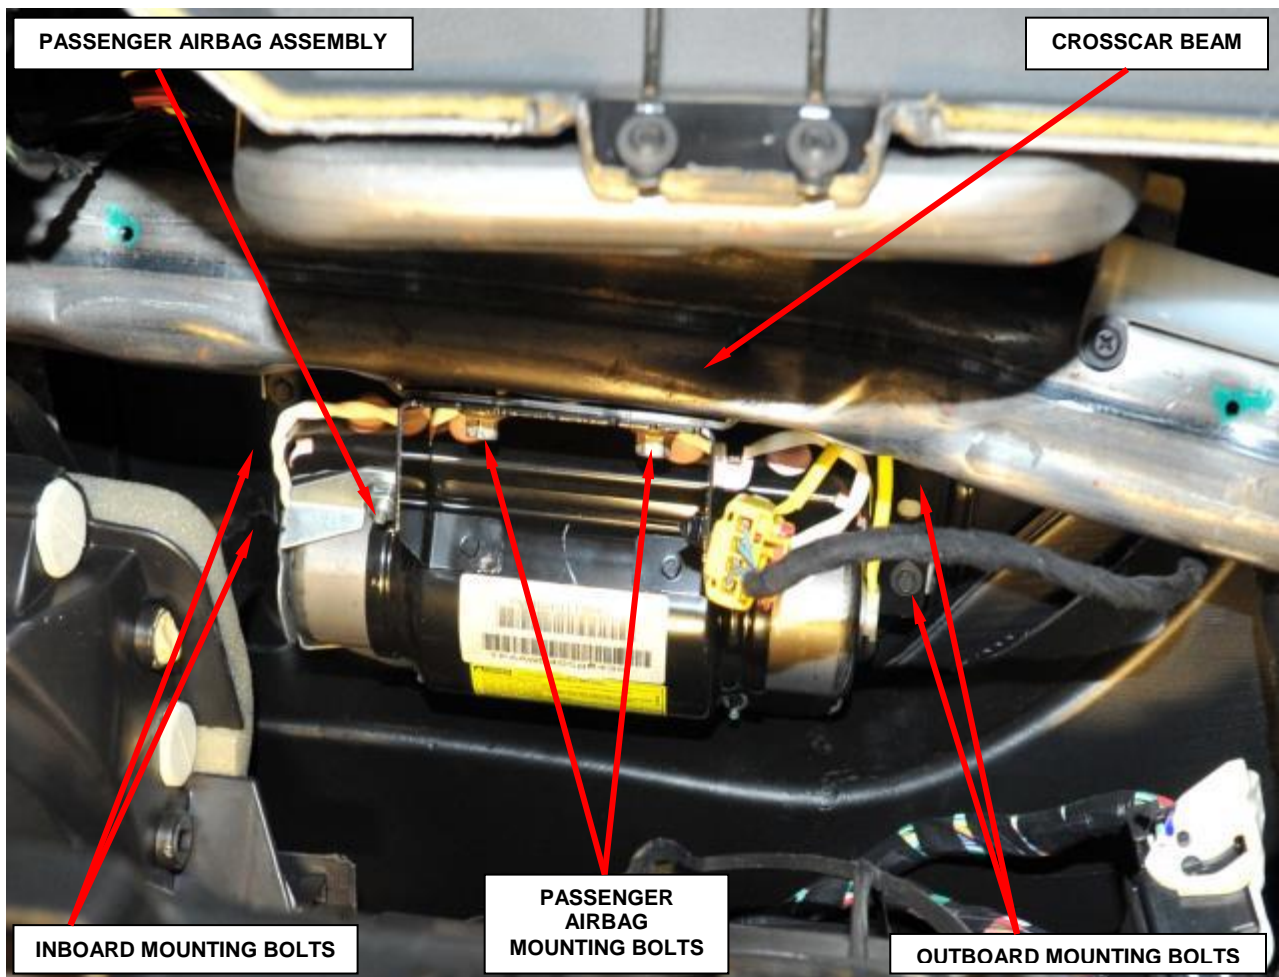

Figure 53 – Passenger Airbag Mounting Locations
5. Remove and save the two inboard mounting bolts to the passenger airbag assembly just below the distribution duct and to the left of the distribution housing (Figure 53).
6. Remove and save the two outboard mounting bolts to the passenger airbag assembly just below the distribution duct (Figure 53).
7. Remove and save the two passenger airbag assembly mounting bolts to the crosscar beam (Figure 53).